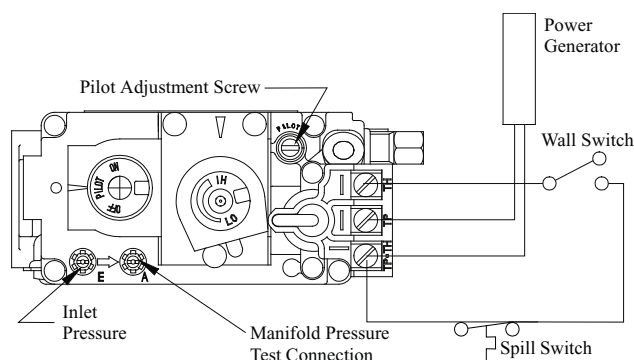

Figure 33. Sit Nova 820 gas valve.
1. Locate Pilot Adjustment Screw. (See figure 33.)